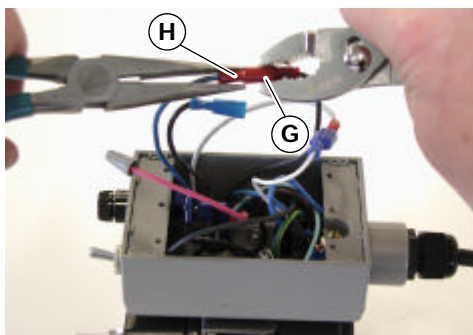

Figure 15
**11a.** Unplug black wire (G of Figure 15) from dark blue wire (H).